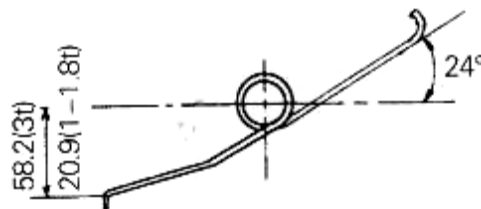

Fig 5-17
(9) Measure free length and installation load of ratchet spring (Fig 5-17). Installation Load: 14.7N